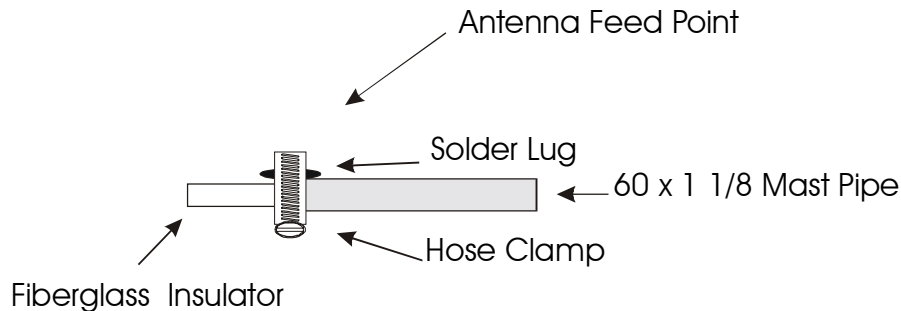

Figure 2
- [] 9. Now the hollow fiberglass insulator should be placed approximately 3 1/2" into the 60" x 1 1/8" aluminum tubing. See Figure 2.
- [] 10. Place one of the hose clamps around the aluminum tubing and snug the clamp using a 5/16" nut driver . The center conductor of the coax will be connected to the antenna using a solder lug placed under the clamp. Refer to figure 2.
The antenna may be quickly removed to be hidden from view. This is easily accomplished by loosening the hose clamp at the base of the antenna shown in Figure 2. Carefully pick up the antenna mast. Be sure to watch for overhead tree limbs and other objects that could come into contact with the antenna during removal. These objects could cause the antenna to become unbalanced and fall, resulting in personal injury and damage to the antenna. Store the antenna in a safe place to prevent damage.